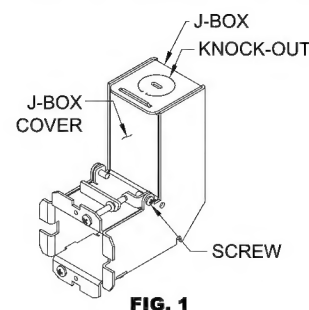

FIG. 1
1. Remove 7/8" diameter KNOCK-OUT from top of J-BOX (supplied with luminaire) (FIG.1).